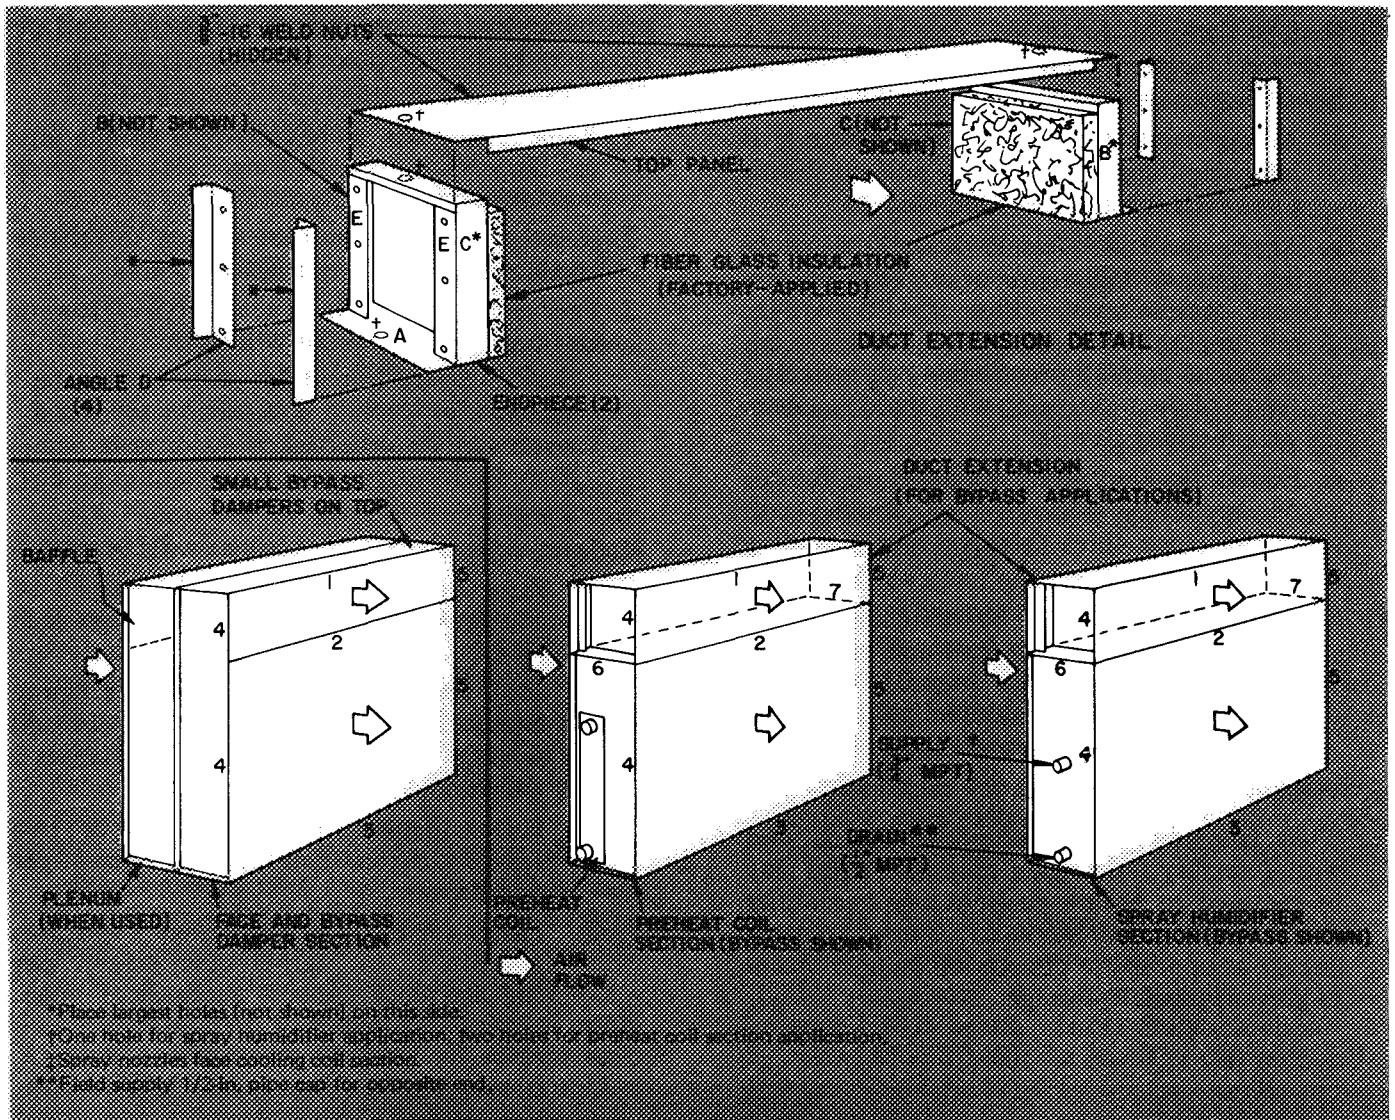

Fig. 8 – Assembly of Accessory Face and Bypass Damper Section; Preheat Coil Section and/or Spray Humidifier Section with and without Bypass – (Sizes 070-120)
- (1) Line up flange 11 and matching surface.
- (2) Drill ten engagement holes in matching surface with a no. 2 drill.
- (3) Fasten flange 11 to matching surface with ten 1/4-20 x 1/2-in. self-tapping screws.
- FACE AND BYPASS DAMPER SECTION; PRE-HEAT COIL SECTION AND/OR SPRAY HUMIDIFIER SECTION WITH AND WITHOUT BYPASS (Sizes 070 thru 120) – Refer to Fig. 8.**